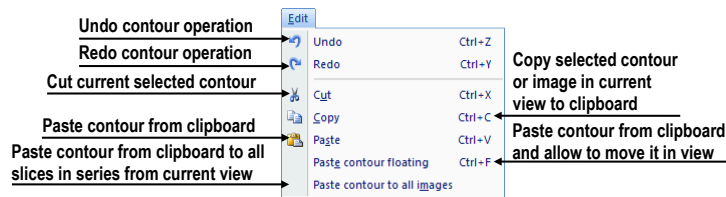

Figure 38 – Edit menu
- **Edit** – clipboard operations with images in the current view and the selected ROI contour, see Figure 38.